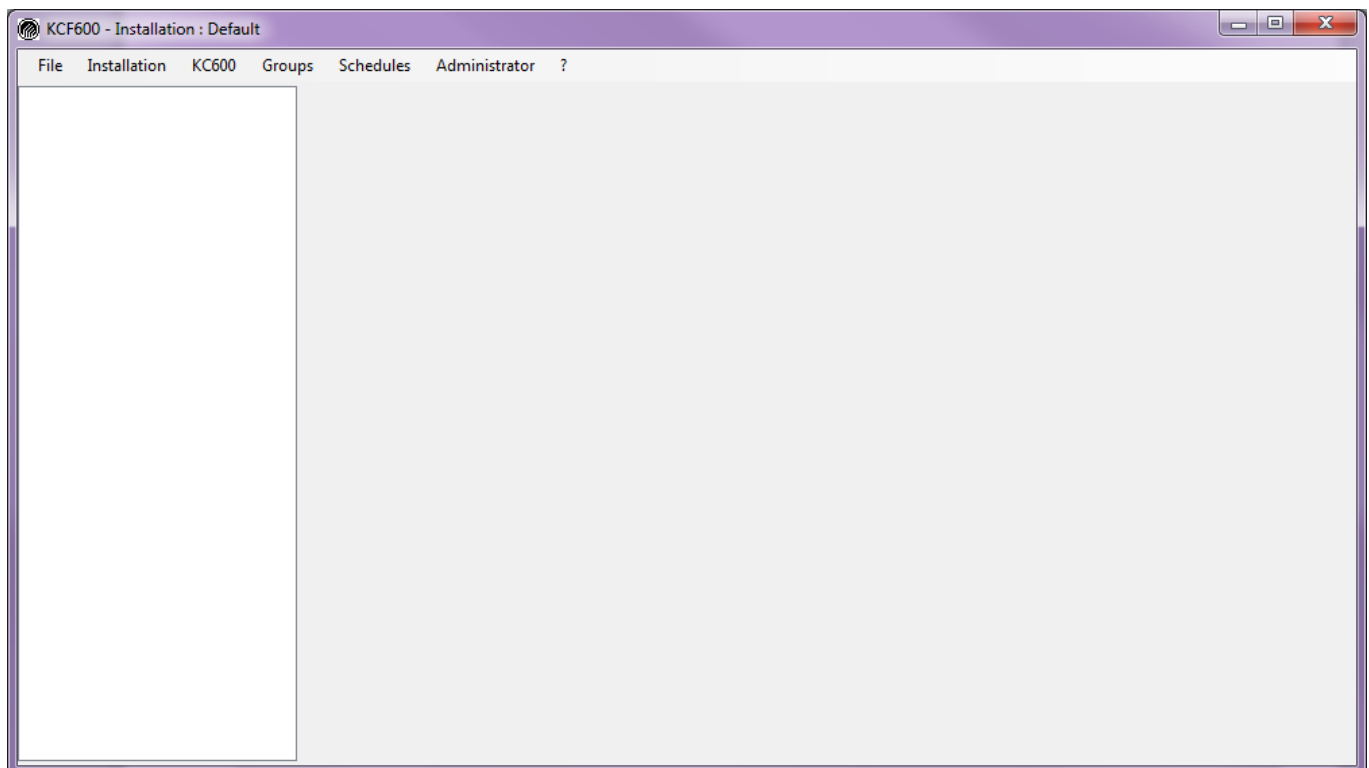

Figure 3: Software main window displaying an empty installation folder
- “**Create**” button: after entering a name (not already used by another *installation*), press this button to generate a new empty *installation* (refer to Figure 3), without any *KC600*.